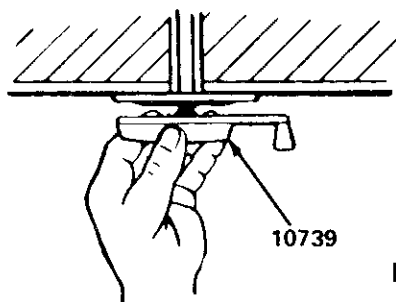

FIG. 5
2. When antenna is fully raised TURN CRANK IN OPPOSITE DIRECTION AT LEAST HALF A TURN BEFORE PUSHING IT UP WHILE STILL TURNING SLIGHTLY. See Fig. 5. This will engage the rotate pin.
3. Hold crank as in Fig. 5 and turn it fully COUNTER-CLOCKWISE to the stop. Then return it CLOCKWISE to the stop. If the installation has been correct, the antenna will now be "in-line" and ready for lowering.